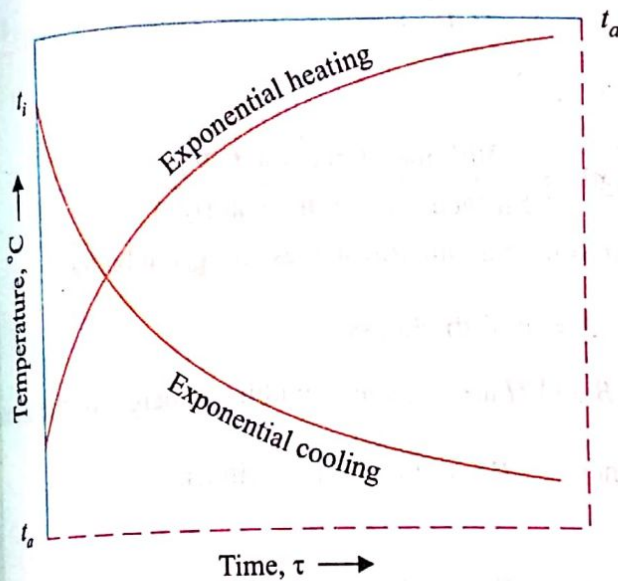

Fig. 4.2. Newtonian heating or cooling.
1. Eqn. (4.4) gives the temperature distribution in the body for *Newtonian heating or cooling* and it indicates that temperature rises *exponentially* with time as shown in Fig. 4.2.